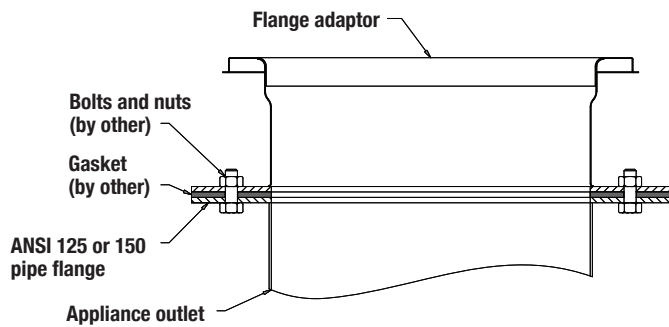

Figure 42 - ANSI flange adaptor (FA illustrated)
1. The Flange Adaptor (FA) is intended for use as a connection to a class 125 or 150 ANSI pipe flange.
2. This type of connection requires a flange gasket and bolt set provided by the installer. The gasket and bolts are typically sold by pipe, valve and fittings houses as 'NBG' set. **Figure 42** illustrates a typical installation.
2. The adaptor is designed to sandwich an 1/2 inch flange between two half ring and the appliance flanged outlet. The Flange Adaptor comes with beam clamps to clamp the FFHA to the appliance. See **Figure 42**.